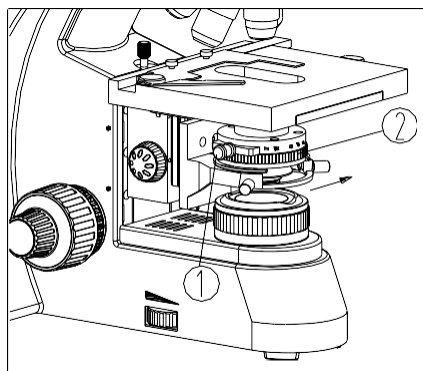

Fig. 39
(1) Keep phase contrast flapper face up (upward the face with word), insert it from left to right into condenser flapper socket as the direction of the arrow pointed (see Fig. 39).
(2) Each diaphragm or hole has corresponding position, when it sounds “ka-da” in dark field flapper rotating, it indicates that one diaphragm or hole is inserted into the center of optical path.
(3) In dark field observation, adjust aperture diaphragm adjusting ring to the maximum position.